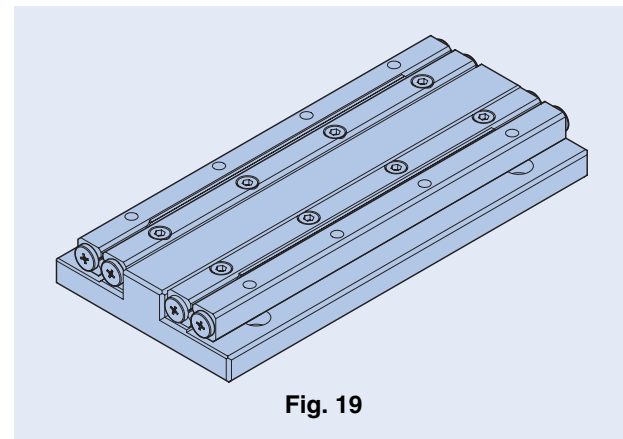

Fig. 19
- Slide both ways in table-side to the center of stroke. (See Fig. 19)